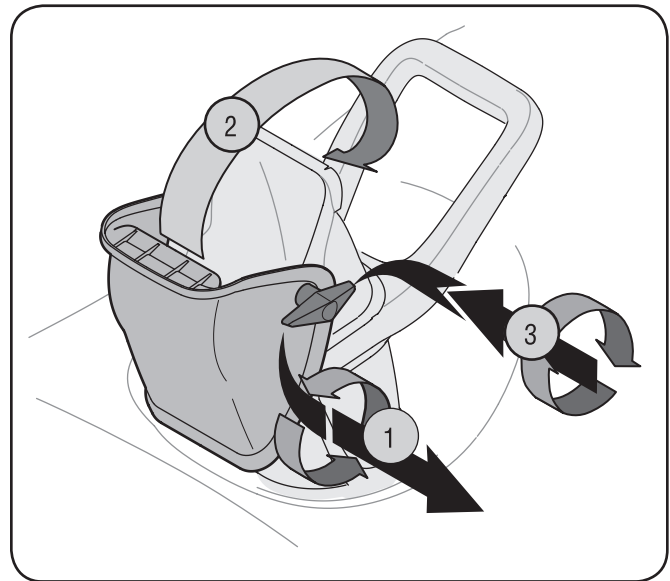

Figure 3-2
1. Remove the wing knob, flat washer and carriage bolt from the lower chute. See Fig. 3-2.